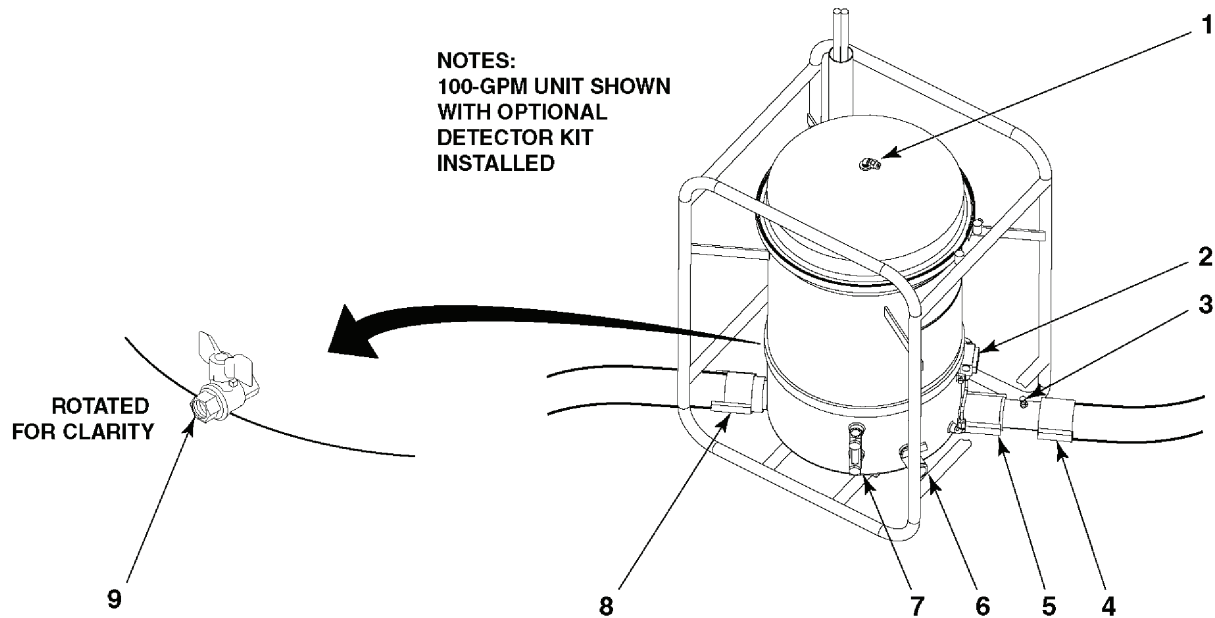

Figure 1. Filter/Separator Unit Operation
1. If fuel sampling will be conducted, install detector kit (figure 1, 3) on filter/separator inlet or outlet connection (5 or 8) and close camlocks completely.
2. With the pump turned off and no fuel flowing, attach supply hose to inlet connection (5) and close camlocks completely.
3. Attach fueling hose to outlet connection (8) and close camlocks completely.
7. As vessel fills, observe purge valve (figure 1, 1) and stop filling vessel when purge valve (1) stops venting air.
8. Close purge valve (1) by turning clockwise.
11. During operation, periodically observe differential pressure gauge (2). If gauge indication reaches red indicator, coalescers should be replaced. See WP 0004 00 for replacement procedures.
12. During operation, samples of filtered fuel can be taken from sampling port (3) using an appropriate sampling device to determine amount of water in fuel.
13. During operation, periodically observe sight gauge (7). If water level float in sight gauge (7) approaches HIGH mark, stop operation and open purge valve (1) and water drain valve (6) to empty sump. Refer to steps 1 through 9 and repeat process for filling vessel.